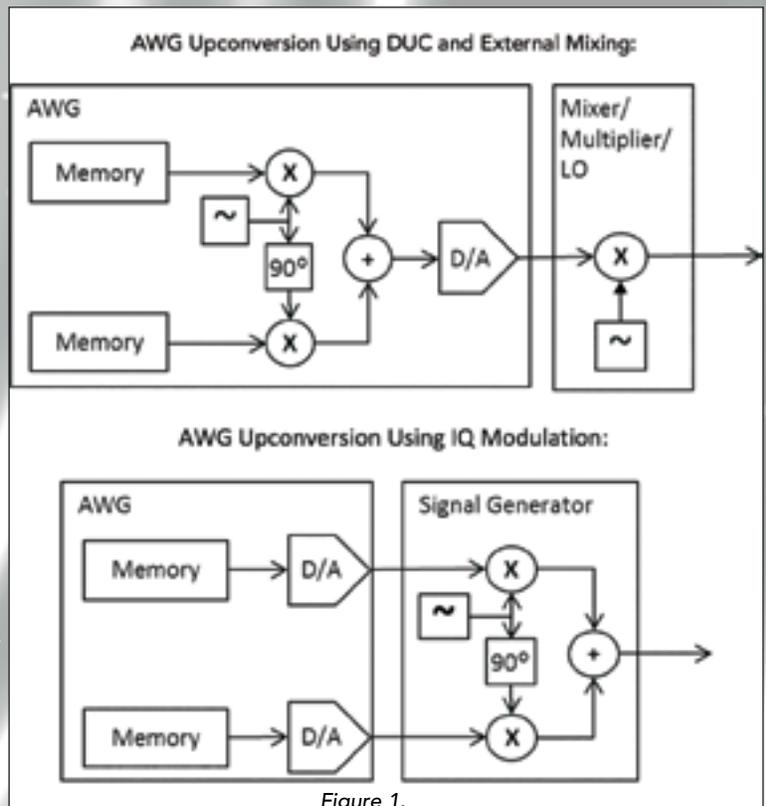

Figure 1.
There are two commonly used techniques to upconvert the AWG signal to higher frequencies using an external source (please see Figure 1 below). The first is to use an external mixer, with the AWG feeding the IF input of the mixer, and the source acting as the Local Oscillator (LO). The key to this method is to use the AWG to produce a signal already at IF, so that sidebands can be filtered off after mixing. This provides the cleanest signal in terms of in-band images, but it is limited in power, and requires the user to find a suitable wideband mixer.